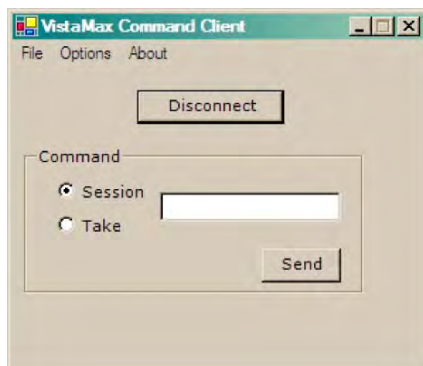

Figure A-1. VistaMax Command Client Window
Access the Command Client application from the admin computer **Start** menu under **All Programs > Harris Corp > VistaMax VMCS Client Application > VMCS Client Application**. The default open window is shown in Figure A-1.
4. On the Command Client window (Figure A-1), click **Connect** to initialize communications with that VistaMax device. Once connected, **Connect** changes to **Disconnect** and the Command section of the window is now active.